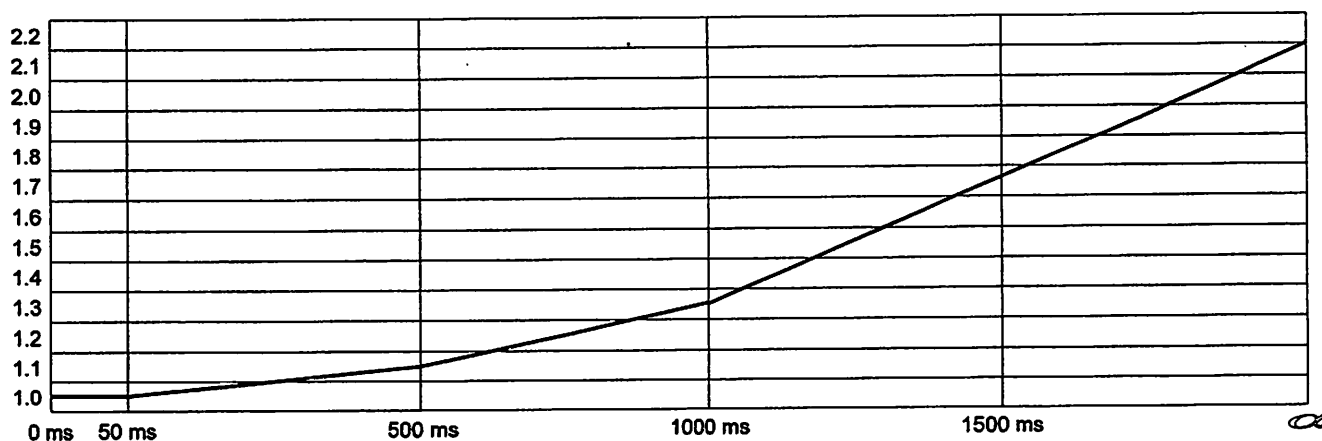

Figure 3D-14: Example RLF compensation curve
- Between 0 and 50 ms no RLF compensation is applied. Per figure 3D-14, the AEC reference voltage is constant at 1 unit between 0 and 50 ms.